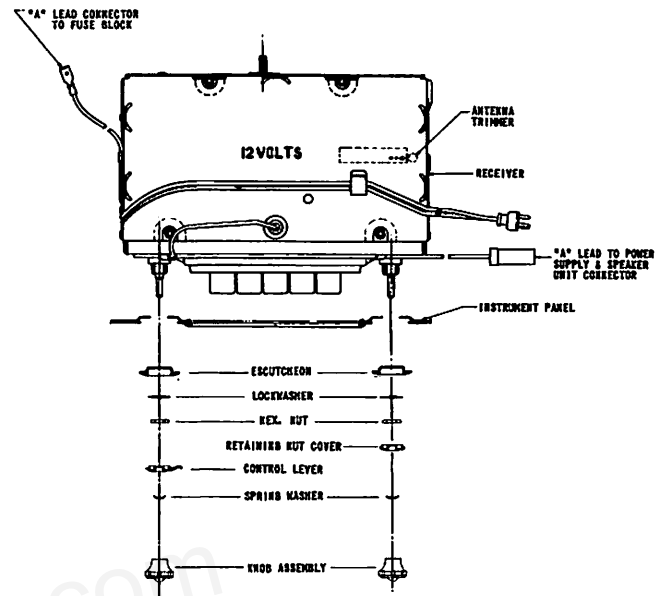

Figure 2
3. Put the control knob escutcheon cups on the shafts and attach with lockwasher and thin nut. See figure 2.
4. Put the tone control lever on the left shaft. Then place spring washer on the shafts and push on knob until knob clip indexes with slot in shaft. See figure 2.